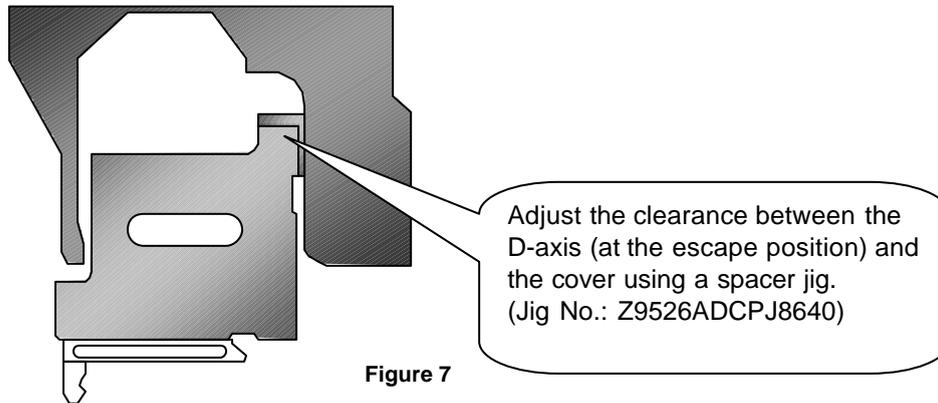

Figure 7
4. Install as spacer jig on the D-axis, and adjust as indicated in Fig.7.